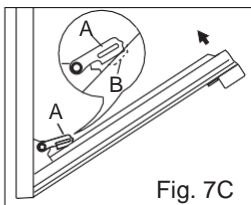

Fig. 7C
- 3) close the door slowly until reaching the catches "A", **making sure they lock into the slots "B" of the door, as shown in fig. 7C.**